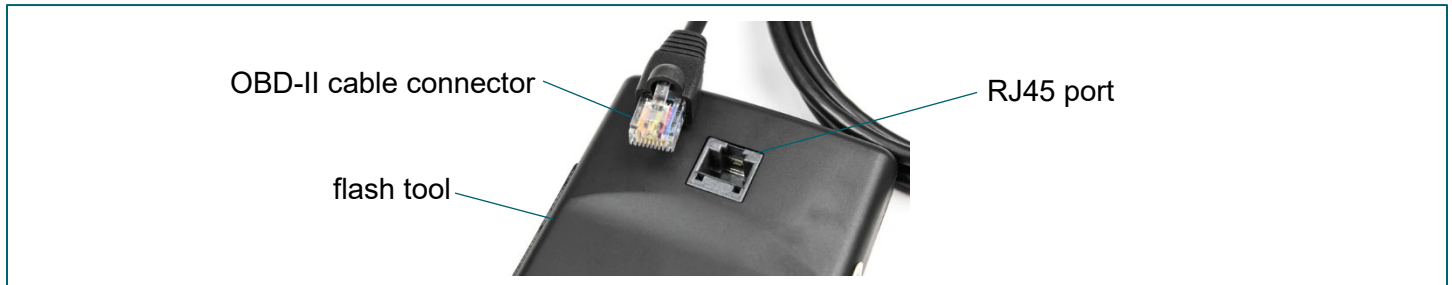

FIGURE 1. Rear of flash tool with RJ45 ethernet port and OBD-II cable connector
- Connect OBD-II cable connector to flash tool RJ45 ethernet port. **FIGURE 1**